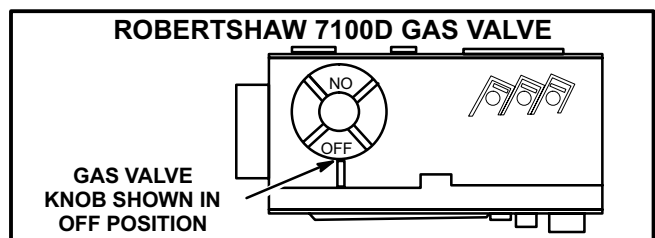

FIGURE 3
Gas Valve Operation (Figures 3 - 5)
- 6- On Robertshaw 7100D and Honeywell VR8204 gas valves, turn knob on gas valve clockwise ➡ to **OFF**. Units with Robertshaw 7200 gas valve, depress lever and move to **OFF** position. Do not force. See figures 3 through 5.